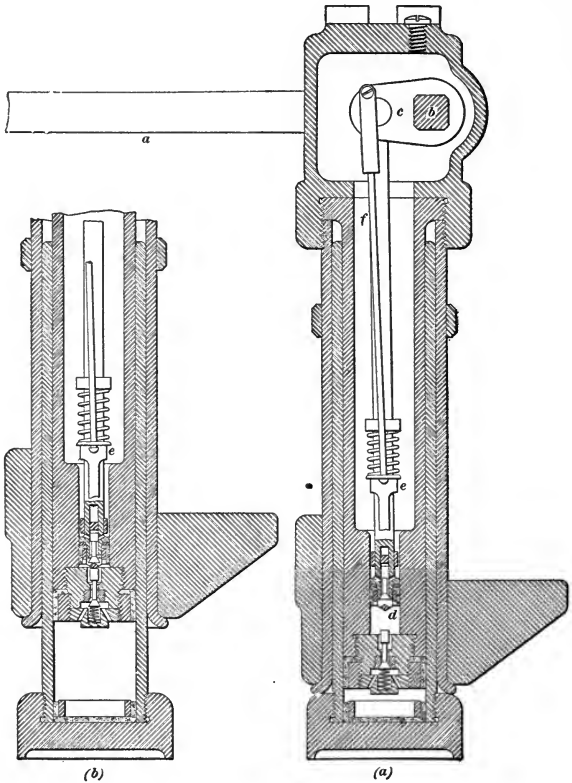

FIG. 10.
**19.** A Watson-Stillman hydraulic jack is shown in section in Fig. 10 (*a*). In this illustration,  $a$  is a lever that is depressed by the operator when he desires to raise the load. This lever freely fits a rectangular hole or socket in a shaft  $b$  that extends clear through the ram head. The shaft  $b$  carries the crank  $c$  to which the piston  $d$  is hinged. A small valve is placed in the center of the piston and serves to open or close communication between the water space above and below the piston. The lower end of the ram is fitted with a small check valve, which normally is held closed by the small spring shown beneath the valve. The inside of the jack is filled with a mixture of alcohol and water, about 2 parts of alcohol to 3 parts of water, which prevents the freezing of the liquid when the jack is used in cold weather. The operation is as follows:
The jack being clear down, as shown in Fig. 10 (*a*), it is placed under the load and the operator alternately depresses and raises the lever through its full range, the motion being limited by a projection on the under side of the lever. The slightest depression of the lever closes the valve in the piston. The downward movement of the piston continuing, the water between the bottom of the piston and the end of the ram is subjected to a pressure that opens the valve in the end of the ram. This allows the water under pressure to pass into the space beneath the ram. The pressure so transmitted to the lower end of the ram forces it upwards. The lever having been depressed to its limit is again raised. This raises the piston, causes the piston valve to open, and allows the water above the piston to flow beneath it. The pressure of the water below the ram promptly closes the ram valve as soon as the piston commences to move upwards. The operation may now be repeated as often as required.
In order to lower the ram, the lever is withdrawn from its socket and inserted again with the projection upwards. It can now be depressed far enough to cause the end of the piston to strike and open the ram-head valve, as shown in Fig. 10 (*b*), where the parts of the jack are shown in the relative positions occupied while lowering. But before the water in the bottom of the ram can escape to the top, the valve in the piston must also be opened. This is accomplished by a heavy spring that forces the sleeve *e* downwards. The lower end of the sleeve has a cotter working in a slot in the piston rod; the cotter bearing against the top of the valve forces the latter downwards. The sleeve is connected to the crank *c* by the so-called lowering wire *f*, in such a manner that the cotter will not strike the piston valve while the jack is raising the load. The ram will descend as long as the lever is kept hard down; it can be stopped instantly by raising the lever slightly.